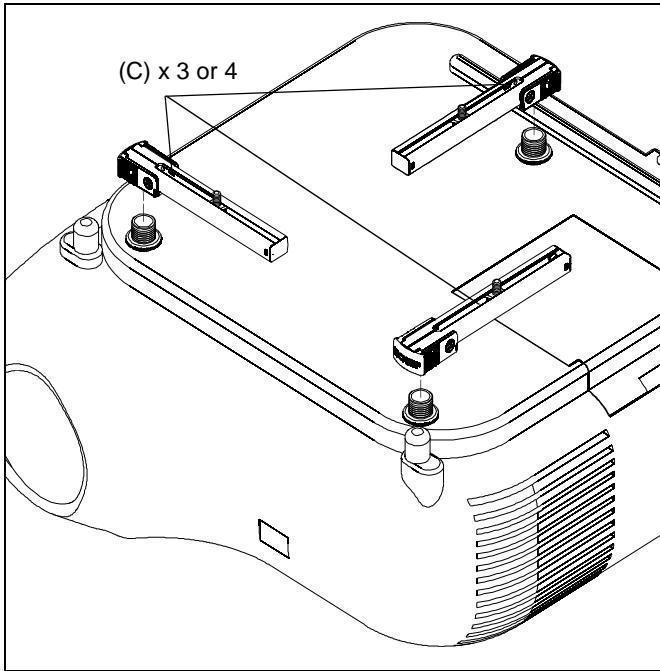

Figure 4
- Place SSBU/SSMU legs (C) over screw adapters and height-adjustment nuts. (See Figure 4)